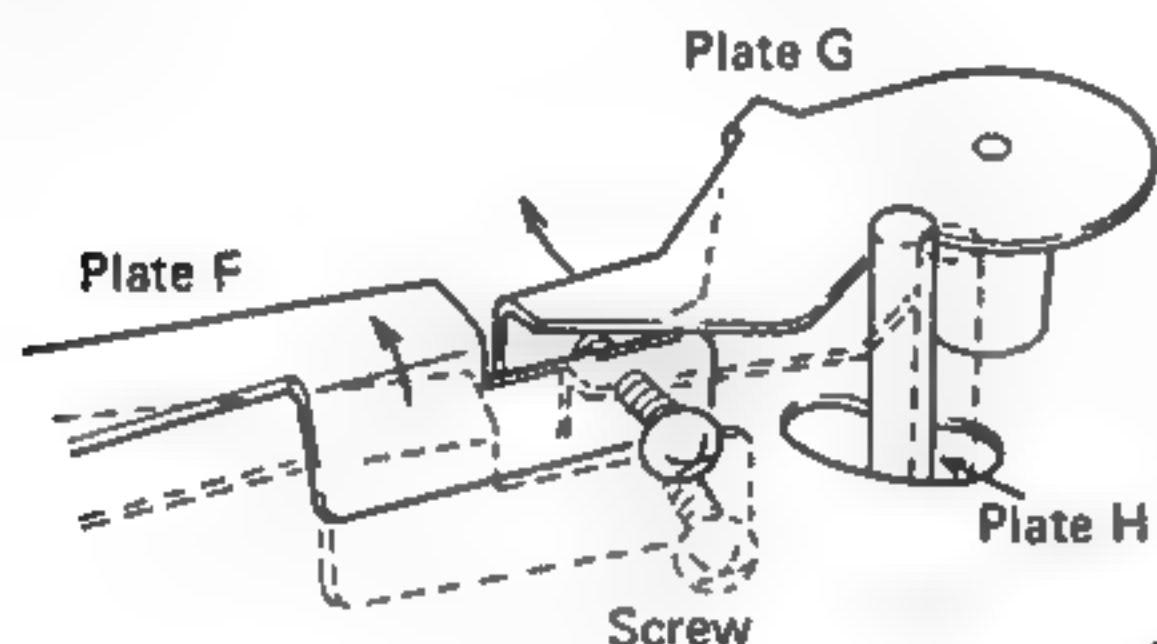

Fig. 8
2. Plate G moves plate H toward the center shaft (Fig. 8).